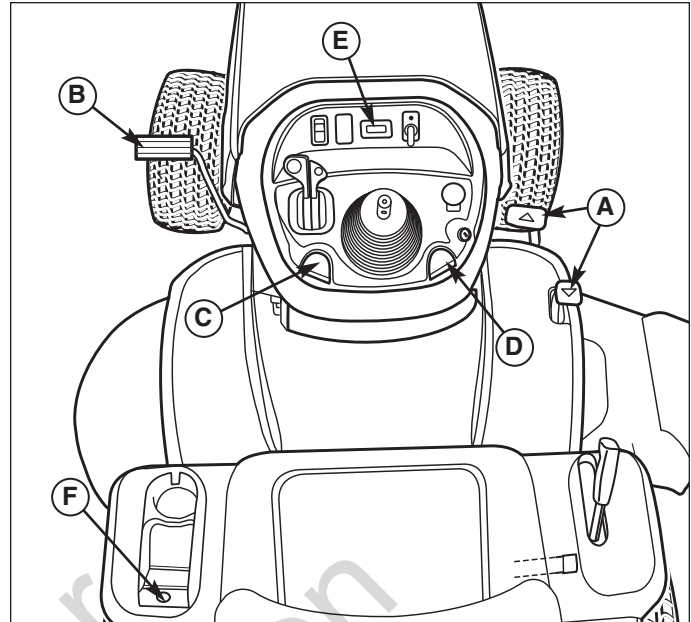

Figure 2. Engaging the Parking Brake
Applying the Parking Brake - See Figure 2. To lock the parking brake, release the ground speed pedals (A), fully depress the brake pedal (B), pull UP on the parking brake knob (C), and then release brake pedal.
Releasing the Parking Brake - See Figure 2. To release the parking brake, depress the brake pedal (B).
1. Pull up on the cruise control knob (D, Figure 2).
2. Depress the forward ground speed pedal (A).
3. Lift up the cruise control knob (D) when desired speed is reached. The cruise control will lock in one of its six locking positions.
The hourmeter (E, Figure 2) measures the number of hours the key has been in the RUN position.
The 12-volt accessory plug is located in the left side pod (D, Figure 2). It can be used to power small electronic devices. The accessory must be rated at 9 amps or less.